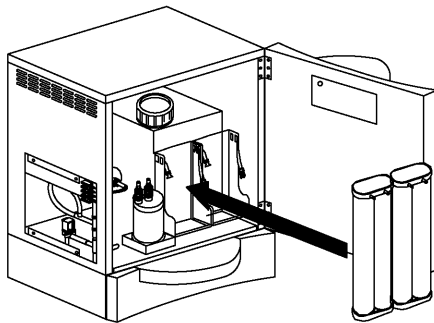

Fig.1
3. Place the ion exchange resin cartridge and high-purity cartridge taken out on the receiver within the unit. (See Fig.1.)